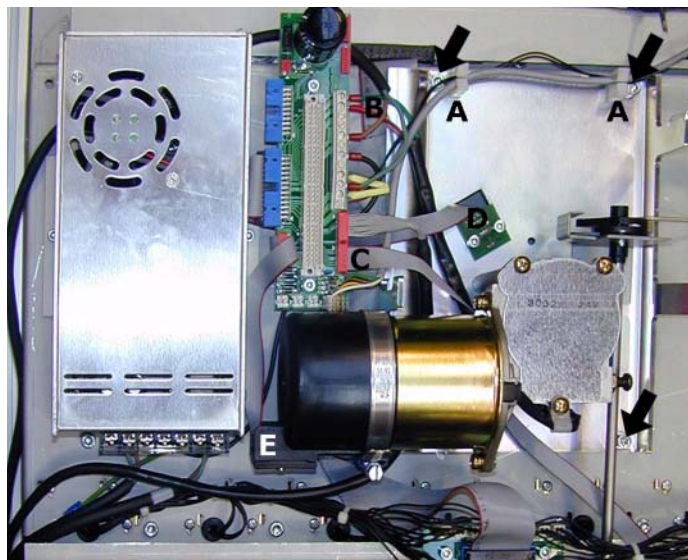

Figure 78: The disconnecting wires and cables are marked with letters, also the motor bedstead's fixing screws are marked with arrows to the figure.
8. Remove the ON-OFF switch and air pump wires from supports, letter A in figure 78.
9. Disconnect the dispensing motor wires (B in figure 78) from the connecting board.
10. Disconnect the flat cable of the nozzle closer sensor (C in figure 78) from the connecting board.
11. Disconnect the 0 sensor (D in figure 78) from the motor bedstead.
14. Open the four fixing screws of the motor bedstead, marked with arrows in figure 78.